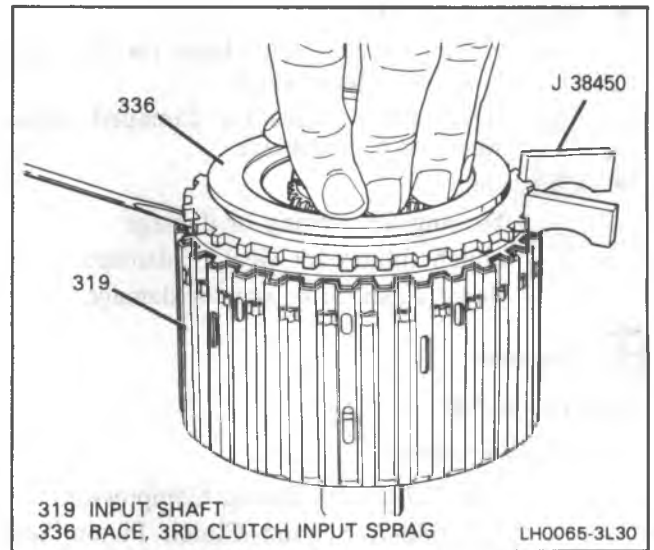

Figure 32 Third Clutch
7. Install a tool blade at each extremity of the retaining ring (Fig. 32).